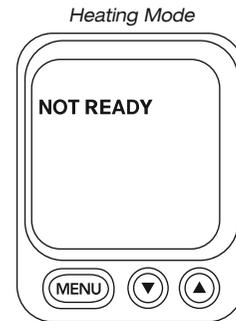

figure 2
6. The Brewer will automatically fill the internal tank with water and heating will begin. This will take approximately 4 minutes. During the heating period, NOT READY will be displayed on the control panel (see figure 2).